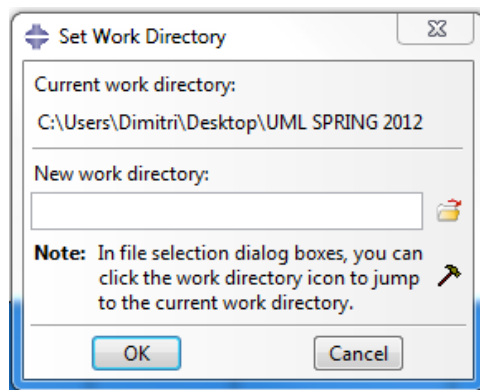

Figure 34. Set Work Directory (FOLDERS)
- The **Set Work Directory** screen will immediately appear (Figure 34). Click **Select...** and use standard Windows practice to select (and possibly create) a subdirectory.